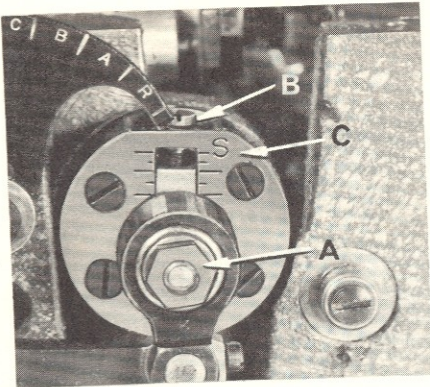

Fig. 11
Set the stitch to the required length. This is accomplished by loosening locknut (A, Fig. 11) (it has a left hand thread) and turning the stitch adjusting screw (B). Turning screw (B) clockwise shortens the stitch and turning it in a counterclockwise direction lengthens the stitch. The head of the mainshaft (C) is marked with an "S" and an "L", moving the stitch regulating stud toward the "S" shortens the stitch and toward the "L" lengthens the stitch. Retighten locknut (C) after setting the stitch to the required length.